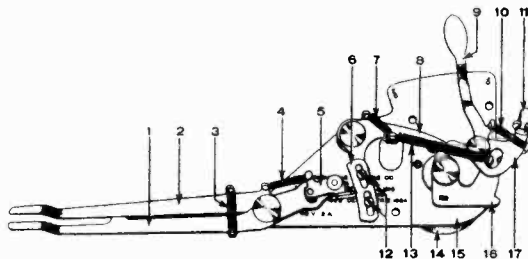
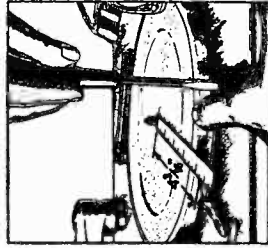

Fig. 1
Figure 3—Adjusting elevator pad
4. If the switch lever 1, Fig. 1, swings with the eccentric groove, but the friction lever 2 fails to swing, or swings but slightly,
- a. Loosen the screws 12, Fig. 1.
- b. In the case of the electric switch, place a drop of oil on the bearing between the brake lever 17, Fig. 1, and the cam lever 16. In the case of the automatic brake, place the oil between the brake lever 33, Fig. 3, and the brake plate 29.
- c. Increase the tension of the spring 10, Fig. 1, (or 32, Fig. 3) by cutting off one or more of the coils and then replacing the end of the spring over the lug. The tension of spring 10 must always be less than that of spring 13.
7. After the instrument has completed one record changing operation, a ten inch record should extend about three-quarters way over each elevator pad. If this condition does not exist, an adjustment can be made by means of the screws that hold the pads in position. A pair of pliers heavily padded with cloth or other soft material should be used to hold the elevator shafts while loosening and tightening the screws. The distance from the closest part of either pad to the edge of the spindle is approximately $4\frac{1}{16}$ ". Figure 3 shows the method of making this adjustment.
- (a) Improper horizontal adjustment of elevator pads. The elevator pads Figure 16, should be so adjusted that the inside of the pad flange is $4\frac{1}{16}$ " from the nearest side of the turntable spindle. See Figure 3. Loosen the screw on top of the elevator shaft, move the pad to its correct position, holding both the pad and the elevator shaft in position and tighten the screw. Care should be observed that the ridge in the elevator shaft is not turned against the slot in the elevator shaft actuating lever so as to cut the latter. Grip the shaft with padded pliers while this adjustment is being made in order to prevent the shaft from turning. If for any reason the elevator pads have been removed, always place the one with the rubber surface toward the front of the mechanism when replacements are being made.